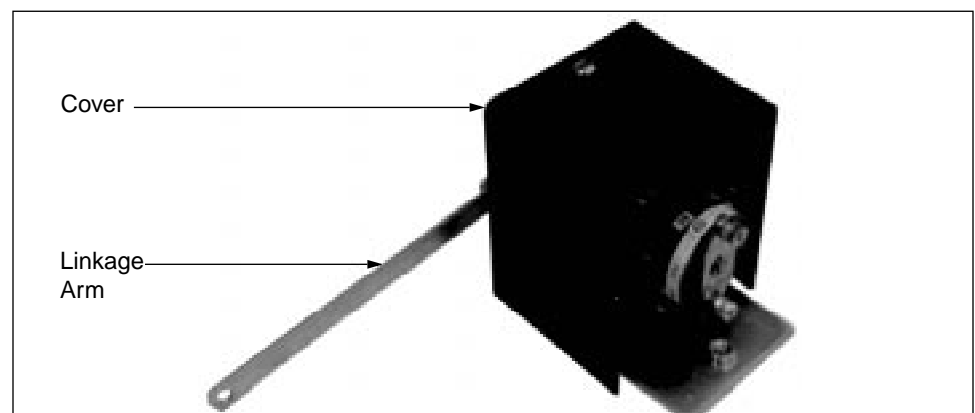

Figure 5: Removing the auxiliary switch cover
1. Remove the auxiliary switch cover. See Figure 5.